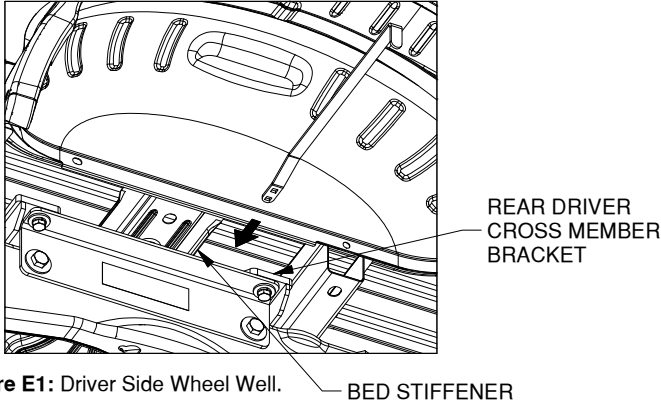

Figure E1: Driver Side Wheel Well. — BED STIFFENER
1. **Position handle.** There is very little room between the bed and the frame. From the outside of the driver side wheel well, Pass the handle over the frame between the bed stiffener and the rear driver cross member bracket as shown in figure E1. The handle will have to be pushed toward the cab once the end with the holes is past the frame.